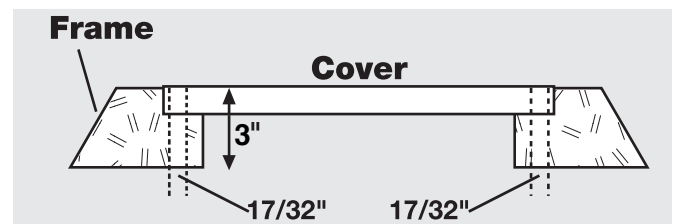

Figure 2
STEP 2: Drill 17/32" (for 5/8"-11 thread) or 7/16" (for 1/2"-13 thread) hole through COVER AND FRAME (Approximately 3" minimum drill depth required to create hole through cover and frame. See Figure 2)